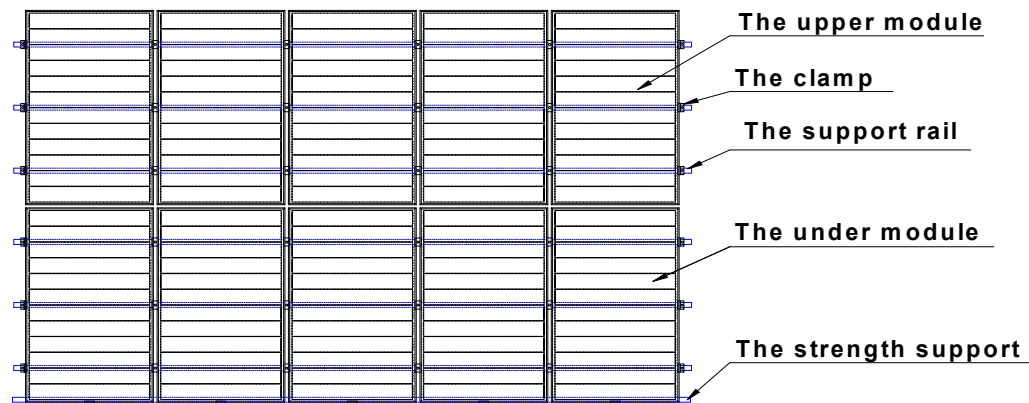

Figure 9 Schematic diagram of reinforcement mounting of module
ed snow. Bluesun solar suggests selecting the support reinforcing mechanism shown in figure 9.
fig.9. Each component has 6 backbars on the back, and the minimum distance between the two components is 20mm. This component is applicable to the 1\*7 (7-core) low-relaxation hot-dip galvanized or low-relaxation Galfan steel cables with a diameter of 12.7mm. This assembly is not intended for epoxy or PE protected cables or other construction (such as 1\*19) cables. Cables shall meet the specification GB/T 5224-1995. This installation manual has no specific requirements for the bearing capacity of steel cables; However, the axial tensile elastic modulus (E) of the steel cable shall not be less than 170GPa.